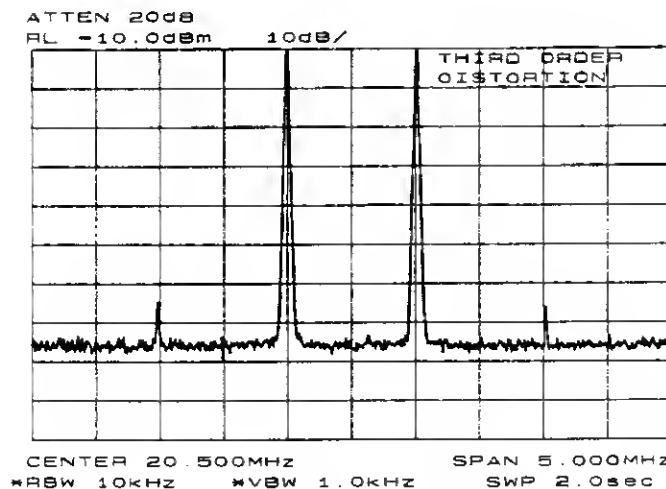

Figure 3-11. Display with title.
6. You may want to store the measurement information for future use. The save and recall functions allow you to store data for later viewing. The screen title function allows you to create a title on the screen and a label for the recall menu. To create a title, press **DISPLAY** and then **SCREEN TITLE**. Next, use the softkeys from the screen-title menu and the knob (to choose the letters) to create a title. The title appears in the upper-right corner of the graticule and can be one or two rows of 16 characters each (see Figure 3-11). Press the softkey **TITLE DONE** when the title is complete.